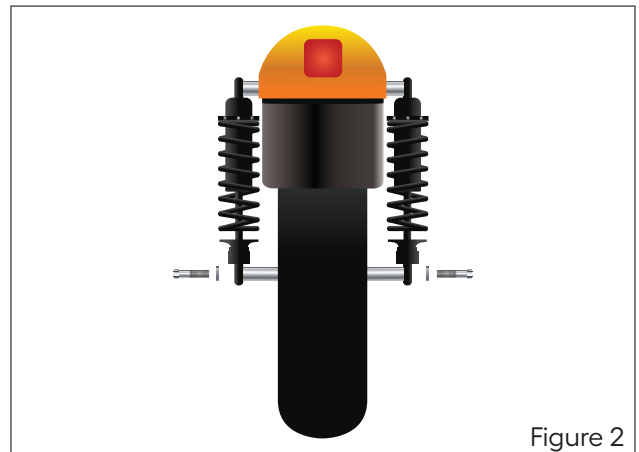

Figure 2
- Install a new shock on each side using a mounting bolt and spacer in the bottom mounting point (Figure 2).